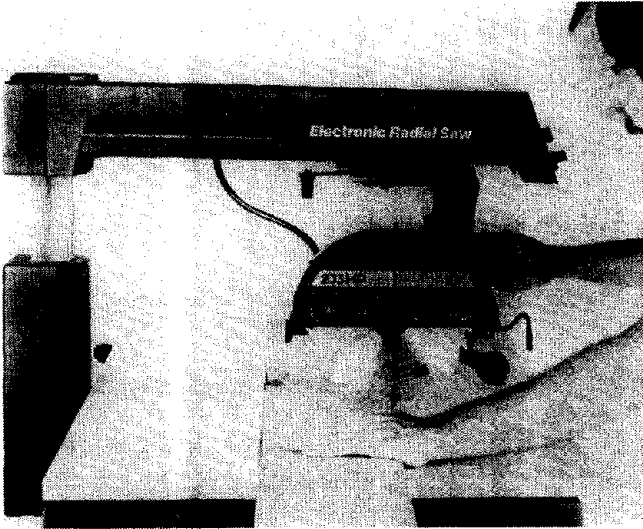

Fig. 120 - Distance Needed to Complete Crosscut
13. Pull blade through fence and workpiece just enough to complete the cut. (Fig. 120)